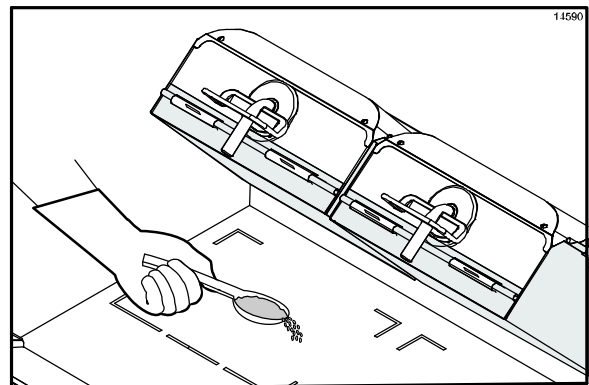

Figure 65
41. Using a sundae spoon, distribute two level spoonfuls of soy adhesion flakes over a warm 3 ft. (1 m.) lower grill surface, allowing the flakes to melt. (See Figure 65.)